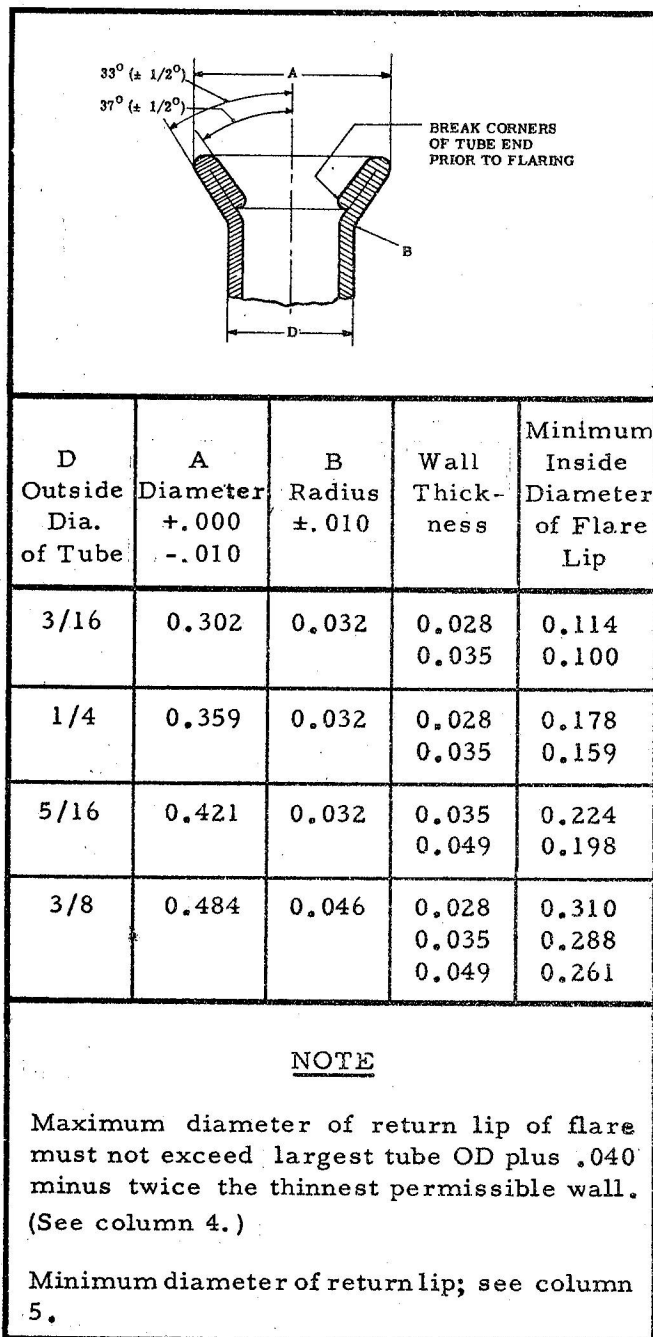

Figure 10 Double Flare Dimensions
18 The tubing should be flared to conform to the flare seat of the fitting. For dimensions of flares see Figures 10 and 11.
- (d) Remove adapter and complete flare with flaring cone. Flaring must conform to dimensions shown in Figure 10.